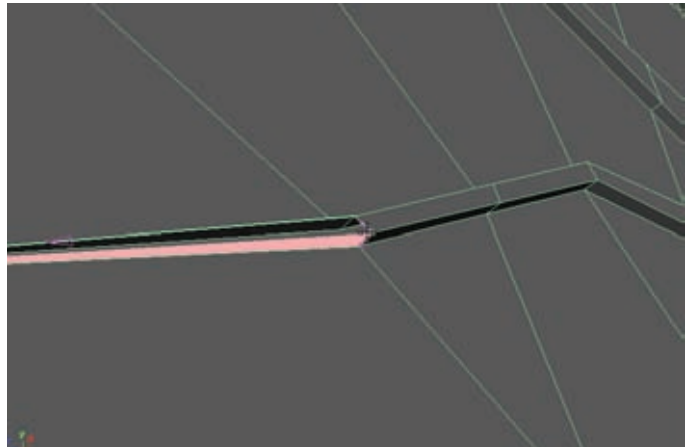

Figure 2.5
3. Select and delete the two faces on the end of each extruded vein. Then, use Edit Mesh → Append to Polygon Tool to close the gaps between them, as portrayed in Figure 2.5. You can also reference the video supplement on the DVD for more details regarding this step.